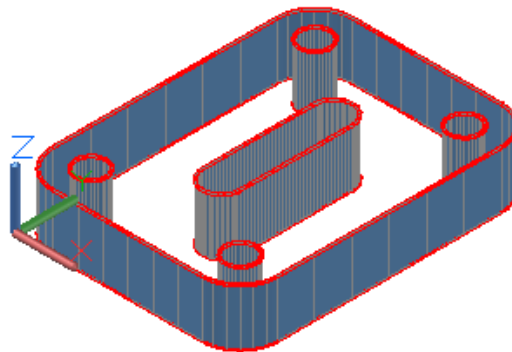

Figure Step 17
Step 17 Change the layer of the regions to layer: Surface Off and then using the RULESURF command, create surfaces on the edges and holes in the model. Create the surfaces on layer: Surface 1. (Figure Step 17)